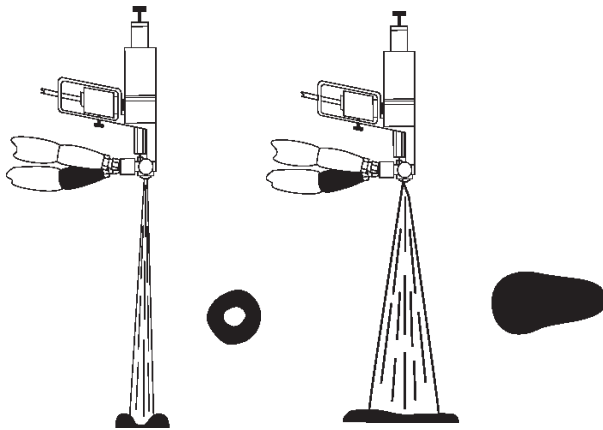

FIG. 12: Opening Spray Pattern
- c. If pattern splits or has hollow center, even with the adjustment screw at minimum number of turns from point of valving, material temperature is too high. Refer to FIG. 12.